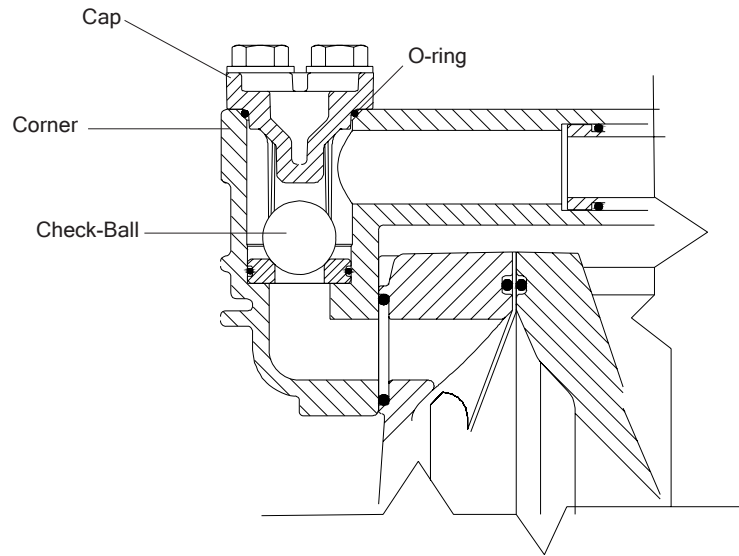

Figure 7-1 - Replace Check-Balls and/or Corners
5. Replace the corner (see Parts List) if the check seat is damaged (see Figure 7-1).